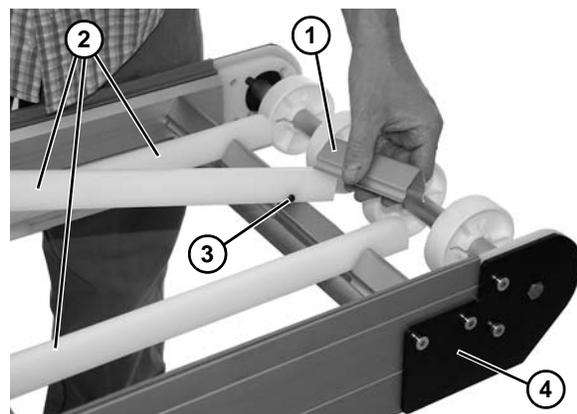

Figure 28
2. Remove inner spacer (Figure 28, item 1) from top of frame assembly.
The upper wearstrips (Figure 28, item 2) have a screw (Figure 28, item 3) on end of wearstrip that is retained by the inner spacers (Figure 28, item 1).
3. Remove upper wear strips (Figure 28, item 2).